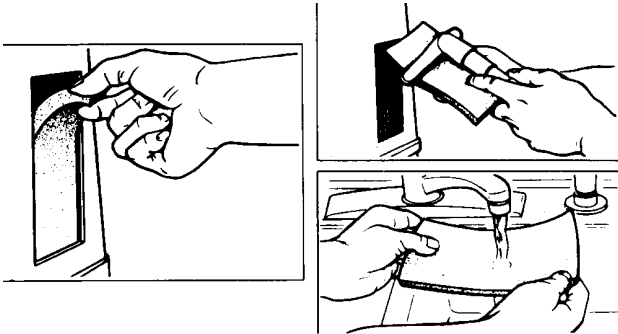

FIGURE 10 - CLEANING THE CABINET FILTERS
1. Remove each filter and **CLEAN AT LEAST ONCE A WEEK** depending on environmental conditions (FIGURE 10).
2. Clean the cabinet filters with a vacuum cleaner or wash in warm soapy water and rinse thoroughly (**FIGURE 10**).